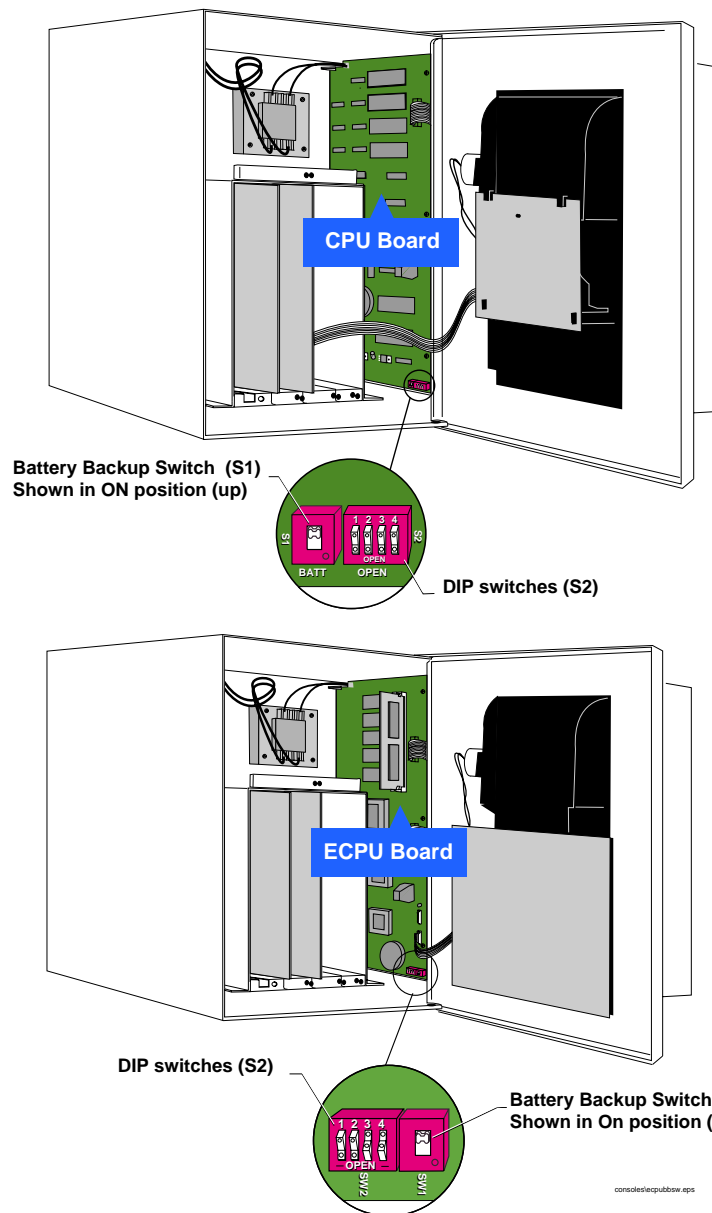

Figure 3. Locating Battery Backup Switch on a CPU Board
- To retain current programming, be sure that the battery backup switch is set to "ON" (see Figure 3). Note; if you have to turn the battery backup switch On, avoid touching any circuit components with your hand or any conductive tool or metallic jewelry.